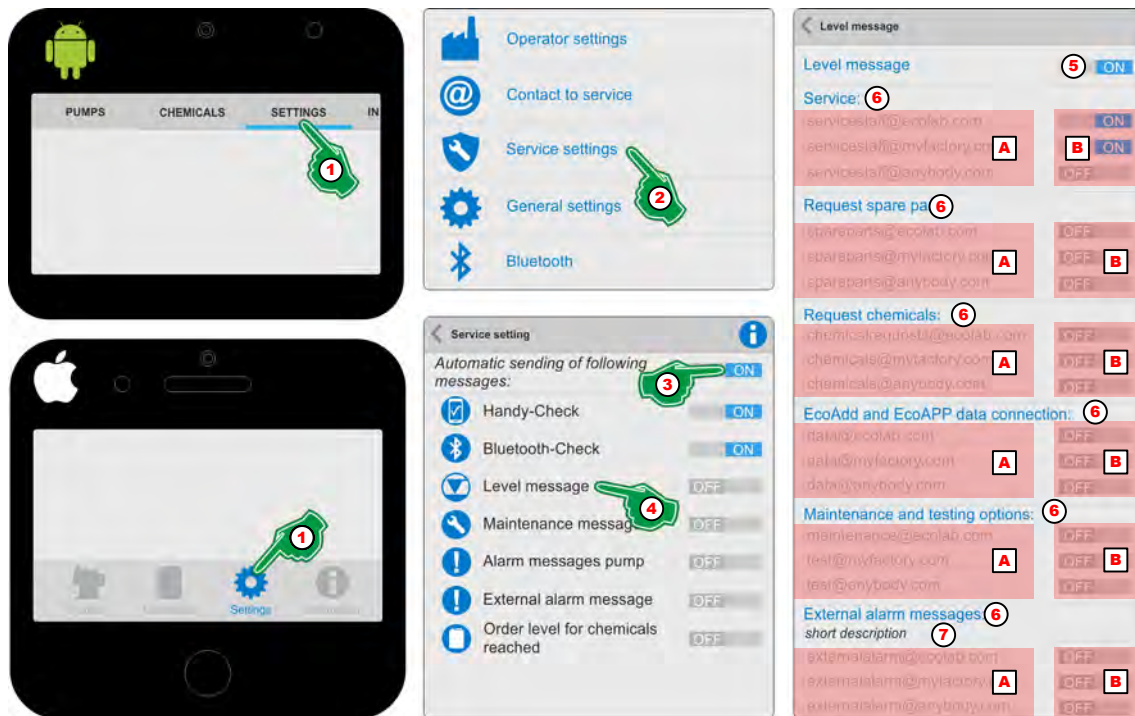

Fig. 8: 'Level message'
1. Select [Settings] (Fig. 8, Pos. 1).
2. Select [Service settings] (Fig. 8, Pos. 2).
3. Turn on 'Automatic sending of following messages' (Fig. 8, Pos. 3) **ON**.
4. Select the symbol 'Level message' (Fig. 8, Pos. 4).
5. Turn on 'Level message' (Fig. 8, Pos. 5) **ON**.
6. Turn on the desired service contacts (Fig. 8, Pos. A) **ON** (Fig. 8, Pos. B) .
7. To display errors when using an external controller (Fig. 8, , Pos. 7) introduce a brief description (Fig. 8, Pos. 8) for identification.